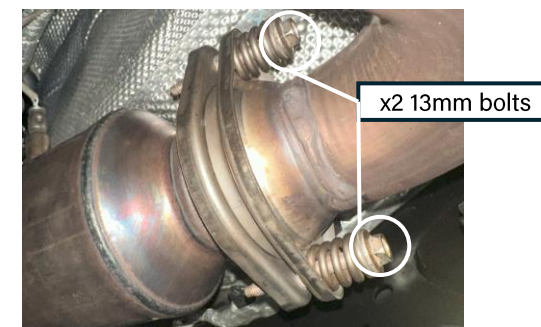

Figure 11f: Spring bolts at cross-over pipe (passenger side)
- Unbolt the passenger-side cross-over pipe at the flange (Figure 11f)